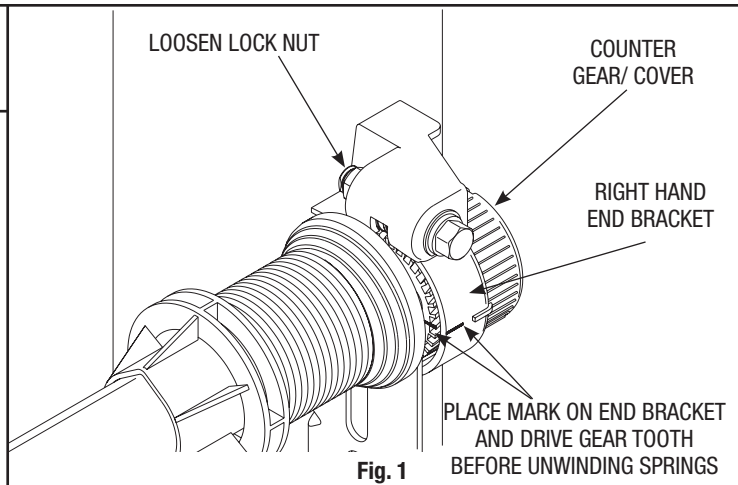

Fig. 1
Step 1: If you have a black counter cover: Place a mark on the drive gear tooth and an adjacent mark on the right hand end bracket (Fig. 1). Loosen the lock nut 1/4 turn using a 7/16" wrench and continue with Step 2.